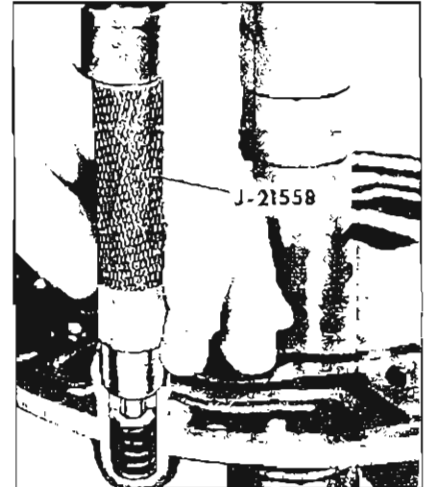

Figure 5-206
8. Install spring, valve, and seat into cooler by-pass valve. Using Tool J-21558 press seat into bore of pump body until tool bottoms on face of pump. See Figure 5-206.